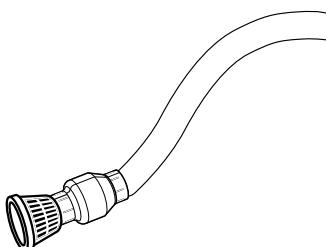

Figure 2
5. Install check valve (not included) at the intake of the suction line to help maintain pump prime (Figure 2).
4. Install suction strainer (not included) at the intake of the suction line to prevent introduction of abrasive material or debris (Figure 2). Position strainer so it does not become clogged with stones or debris.